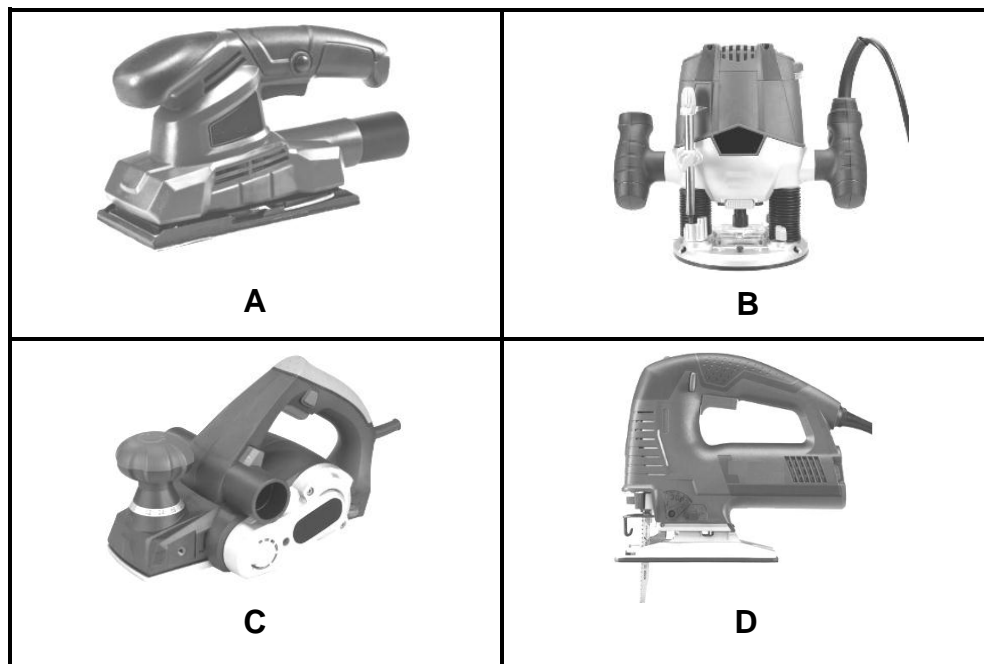

FIGURE 4.1
- 4.1 FIGURE 4.1 below shows four machines. Study the pictures and answer the questions that follow.